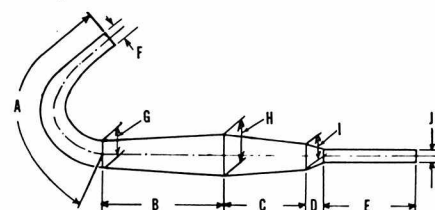

Fig. BST 3-5—Drawing of expansion chamber suggested for Road Racer 175 cc models. Refer to text for specifications.
**EXPANSION CHAMBERS.** Refer to Fig. BST 3-5 and the following specifications for construction of expansion chambers suggested by the manufacturer.